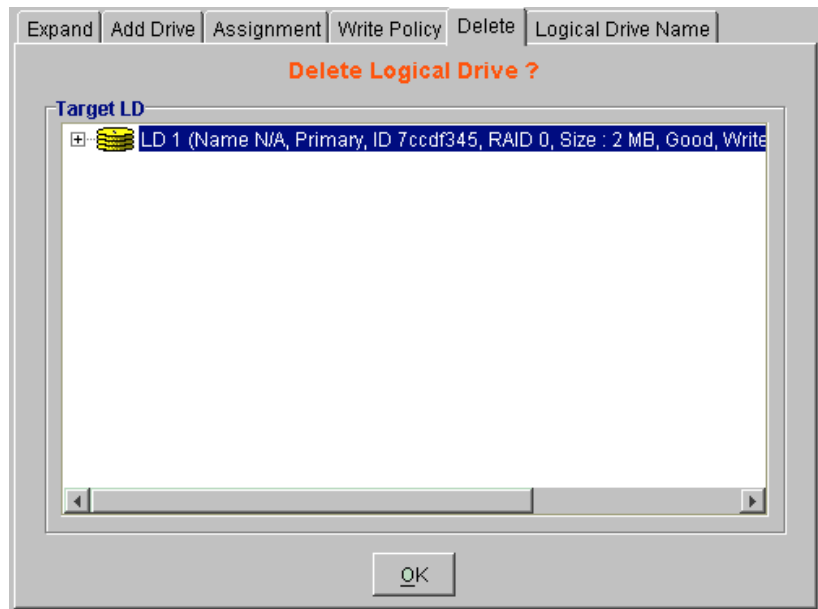

Figure 8-35: Delete Logical Drive
Step 6. If you select the “OK” button, the LD will be deleted and you will be returned to the LD Management window shown in *Figure 8-2*. If you clicked on the “Cancel” button, you will be returned to the “Delete Logical Drive” screen shown in *Figure 8-35*.